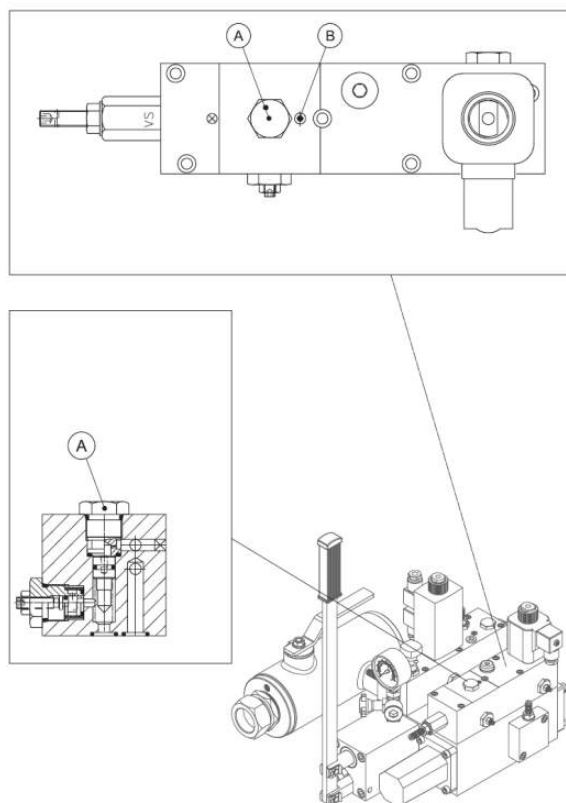

Figure 52 – Up travel block for direct start
- Clean the paint all around the cap “A” and the screw “B”(see Figure 52) of the upward block, using a solvent.